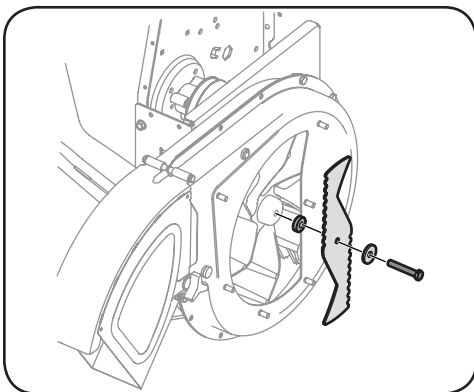

Figure 5-16
8. Remove the hex bolt, flat washer, and spacer to completely free shredder blade. See Figure 5-16.